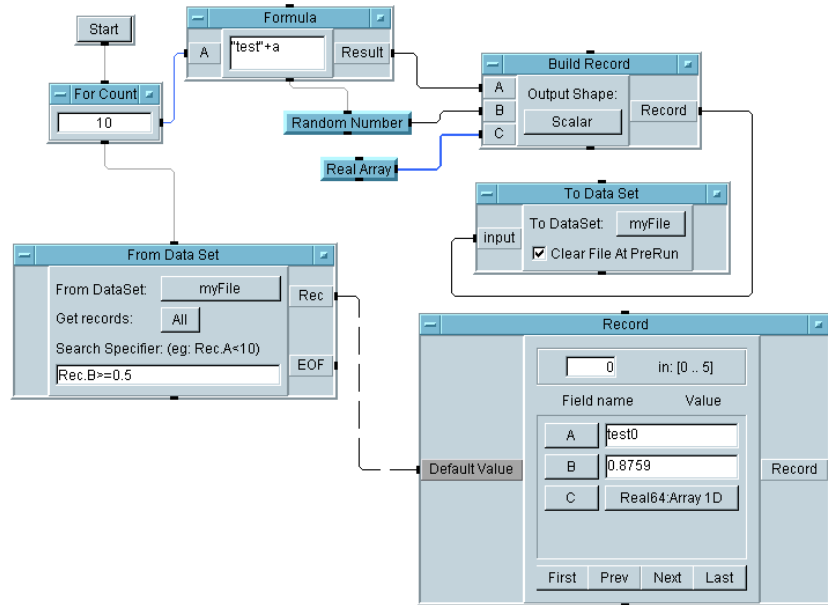

Figure 5-16. A Search Operation with DataSets
3. Add an EOF pin that will fire if no records match the criterion in the expression field. Place the cursor over the data output area of the `From Data Set` object, and press **Ctrl-A**. An EOF output pin is added to the `From Data Set` object, as shown in Figure 5-16.